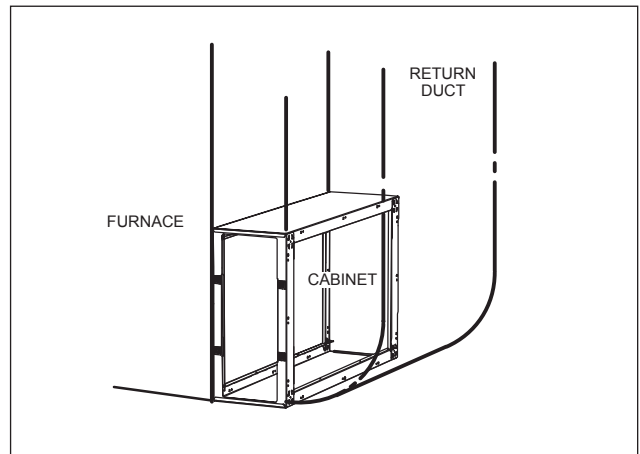

Figure 12. Attach Cabinet to Furnace and Duct
3. Secure the cabinet to the furnace using sheet metal screws in the pre-drilled cabinet mounting holes (see figure 12).